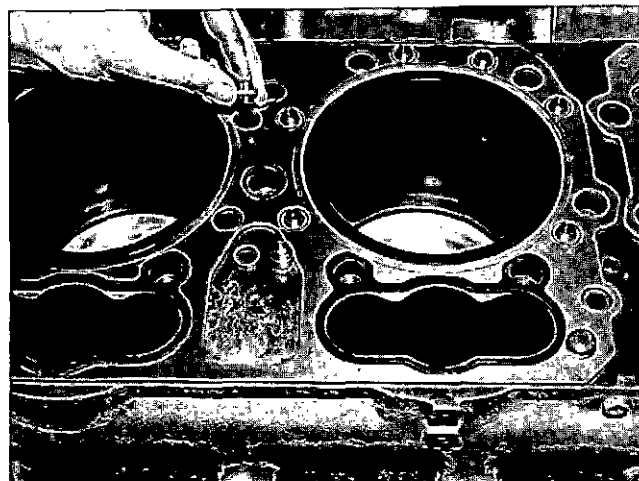

Fig. 14-1-39, V414141. Install head gasket grommets and retainers
4. Place grommet retainers in water passages in block, small end up. Fig. 14-1-39.